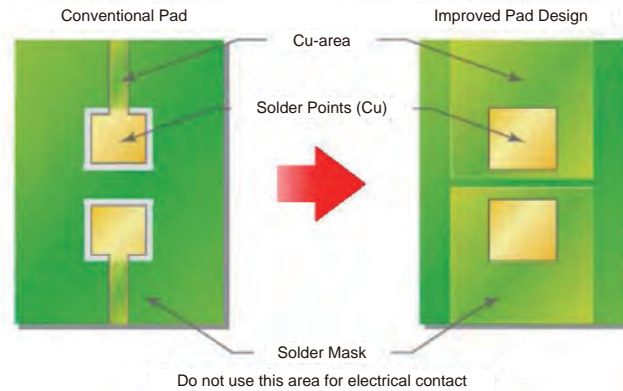

Fig. 12
- 7. High-power LED devices require optimization of heat dissipation. Increasing the size of metal mounting surface and proper application of thermal conductive paste will help improve heat dissipation. Refer to below diagram (Fig.12) and product datasheets for specific design recommendations.